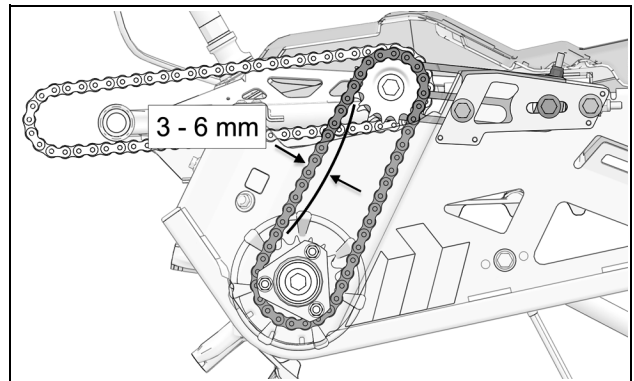

Figure 6
- Apply pressure at center of the two drive sprockets. The chain should have 3-6 mm (1/8-1/4 in.) of play. Re-adjust until the right amount of play is obtained. See Figure 6.